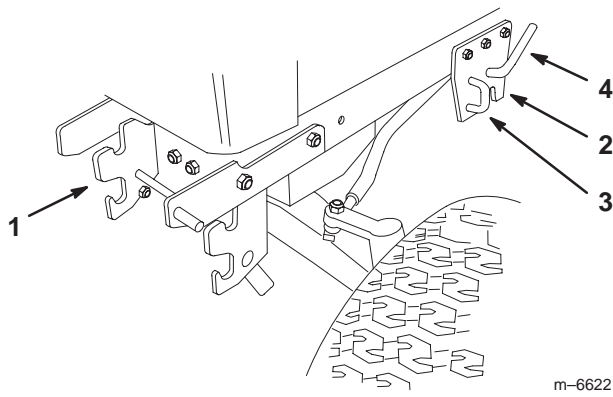

Figure 18
7. Open the mid-mount hitch by pulling out the J-pin and moving the lock handle rearward (Fig. 18).
10. Close the mid-mount hitch by moving the lock handle forward and by pulling out the J-pin and locking it into place (Fig. 18).